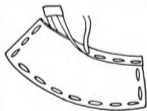

FIGURE 163
*Detached Cuffs* (Figure 163). — The detached cuff is made separate from the sleeve and is made to turn away from the bottom of the sleeve. The bottom of the sleeve is finished with a hem, bias binding, or facing, bias binding being the most desirable. The bias binding for the cuff is cut  $1\frac{1}{4}$  inches wide and  $\frac{1}{2}$  inch longer than the length of the cuff line. Fold the binding through